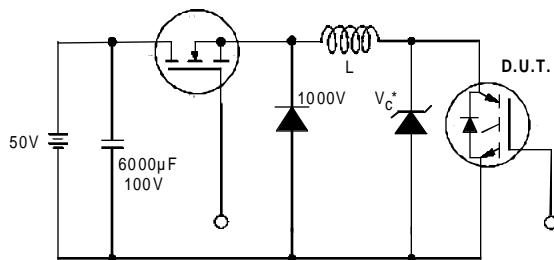

Figure 19. Clamped Inductive Load Test Circuit
- ②  $V_{CC}=80\% (V_{CES})$ ,  $V_{GE}=20V$ ,  $L=10\mu H$ ,  $R_G = 1\Omega$  (Figure 19)
- ③ Pulse width  $\leq 80\mu s$ ; duty factor  $\leq 0.1\%$ .
- ④ Pulse width 5.0 $\mu s$ , single shot.